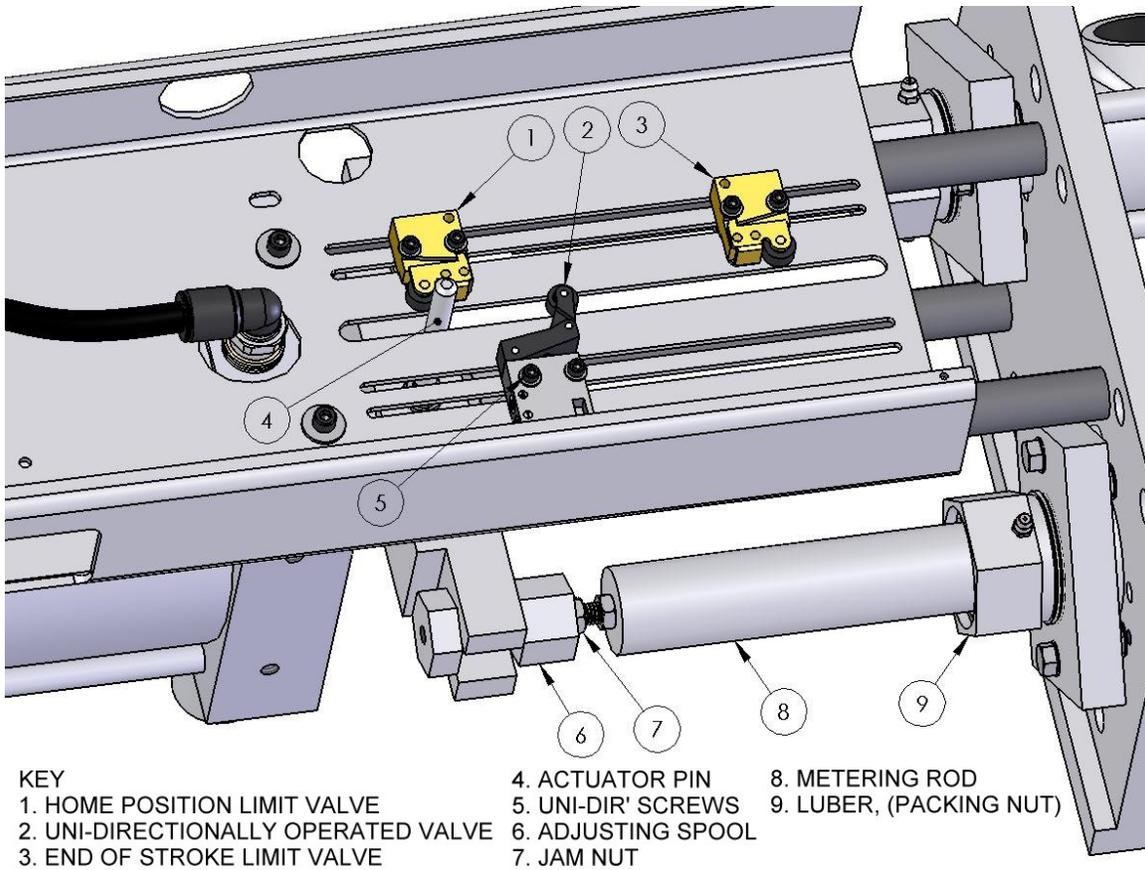

Figure 2
In a rod metering pump (RMP), each rod, (fig 2, #8) is simultaneously pushed into a pump housing. At rest, (or “home position”), (fig 2, #1) these rods are typically about 1-1/2” from the main pressure seal. After traveling the 1-1/2” “recharge distance” the rods begin to come in contact with the main pressure seal, sealing off the inlet. At this point the uni-directionally operated, (double hinged) roller valve, (fig 2, #2) is actuated, thus sending a signal for the dispense valve to open. Also, this point is where the “phasing” will need to be done. If two materials were identical, phasing would be accomplished by making sure both metering rods are adjusted the same, (coming in contact with the seal at the same time). This also may be witnessed by watching the outlet fluid pressure gauges while dispensing, both pressures should start to rise together. If one side lags, this would indicate compressibility in the pump. This compressibility may be a matter of a small air pocket trapped in the top of the “pressure tube”. The air pocket can be eliminated by opening the bleed valve at the top of the pressure tube. If this is not the case, one material is probably more compressible than the other and the rod of the pump that is more compressible will need to be adjusted inward. This will make one rod come in contact with the pressure seal first and “pre-compress” the material. The following is the step by step procedure for accomplishing this.
2. The position of the uni-directionally operated roller valve, (uni-dir), (fig 2, #2) is typically factory set at the proper position. If the meter has been disassembled or adjusted, the position of the valve may need to be reset. Set the position of this valve as follows:
- 2.5.1. Loosen the two screws, (fig 2, #5) that hold the uni-dir' valve in place.
- 2.5.2. Slide the valve along the mounting slot until the valve roller is being actuated by the drive bar or valve actuator pin, (fig 2, #4), and tighten the two screws. ***(Be careful not to move the valve too close to the actuator as this will cause the hinged arm to fatigue and or break.)***
- 2.8. If this has no effect, loosen the jam nut, (fig 2, #7) on the side that lags.
- 2.9. Turn the adjusting spool, (fig 2, #6) CCW to move the rod further into the pump ½ turn at a time.